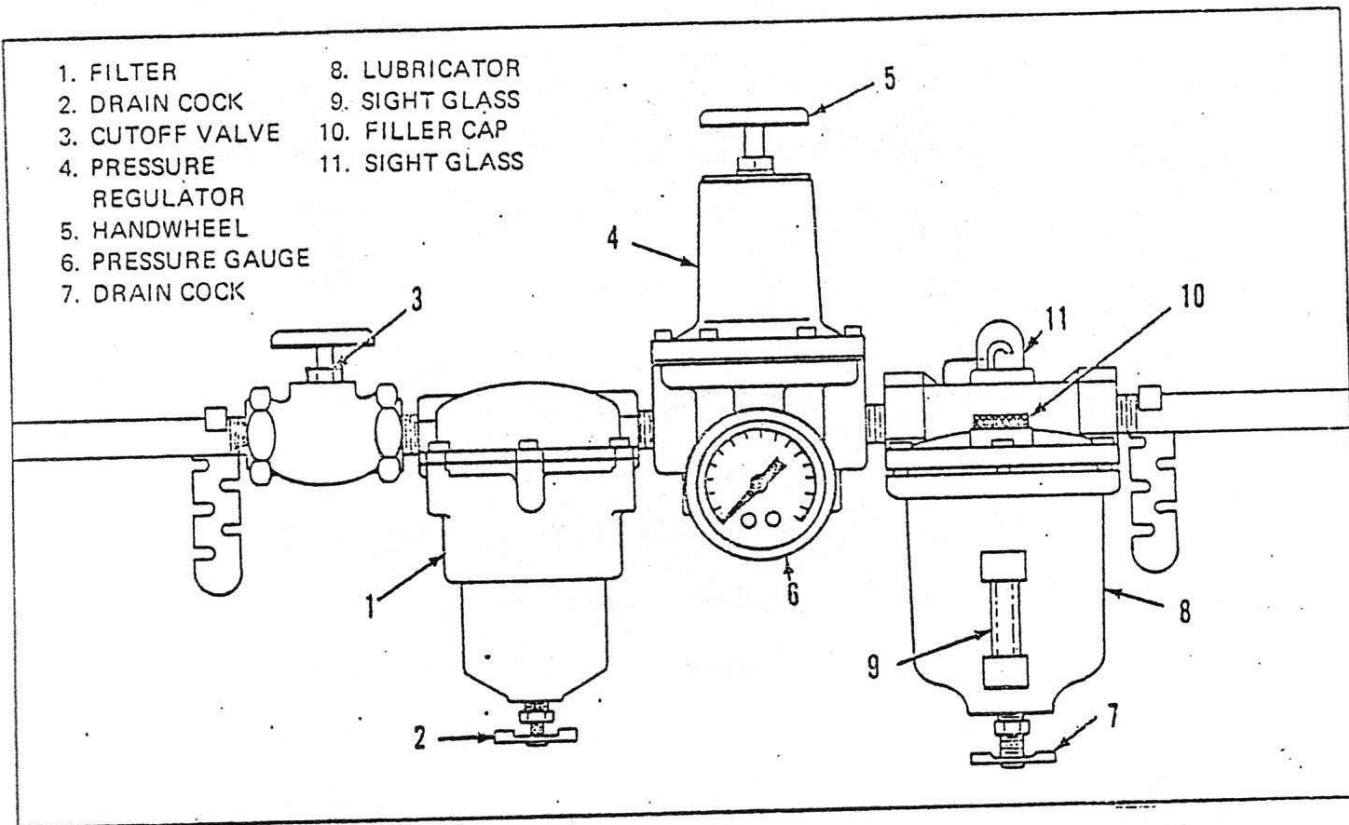

Figure 2-12 Pneumatic Lubrication System
(1). Draining. The filter (1, Figure 2-12) should be drained regularly to obtain maximum benefit. Open the drain cock (2) to drain the filter. Never allow moisture to fill the bowl up to the filter element.
(a). Close the air cutoff valve (3, Figure 2-12).
(1). Close the air cutoff valve (3, Figure 2-12).
- (10). When assembly is completed, operate the engine to buildup air pressure in the controls air reservoir.
- (11). Open the air cutoff valve (3, Figure 2-12).
- (1). Close the air cutoff valve (3, Figure 2-12).
(11). Make sure the screws (1) are tight enough to form an airtight seal between the bowl (4) and body (6).
(12). Service the lubricator with oil through the filler plug hole. Tighten the filler plug (13) tight enough to form an airtight seal.
(14). Open the air cutoff valve (3, Figure 2-12).
(15). Check to see that the pressure (6) on the pressure regulator is indicating the desired delivery pressure.